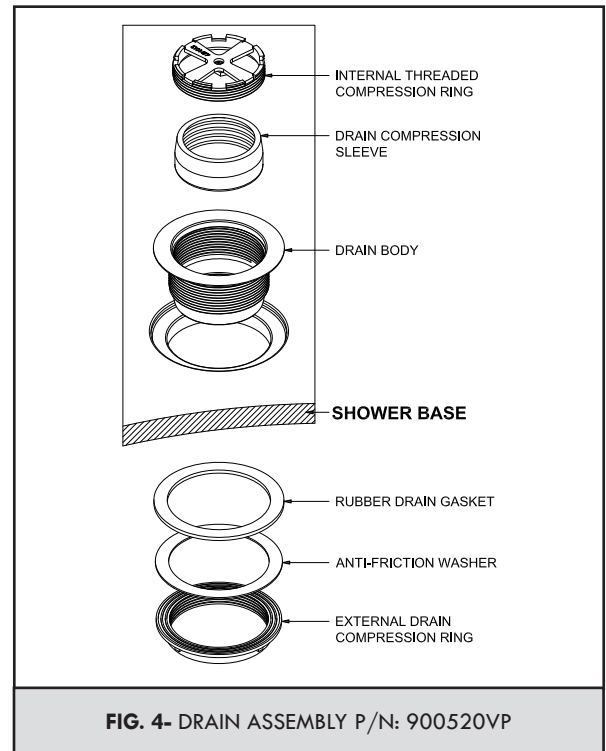

FIG. 4- DRAIN ASSEMBLY P/N: 900520VP
3. Disassemble the Drain Assembly as shown (**SEE FIG. 4**). Set aside the Internal Threaded Compression Ring and Drain Compression Sleeve; they will be installed later.